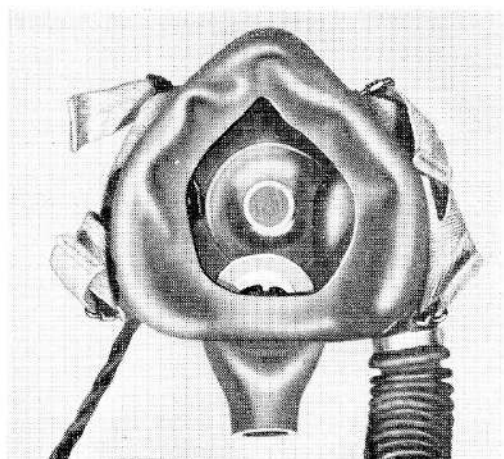

Fig. 8. Interior of Type M mask
25. The facepiece (fig. 8 and 9) is made of pure latex rubber and is unlined. It covers the nose and mouth, but not the chin, and the seal is formed by a thin rubber reflected edge. Incorporated in the nose area is a strip of malleable metal, which can be adjusted to improve the fit of the mask.